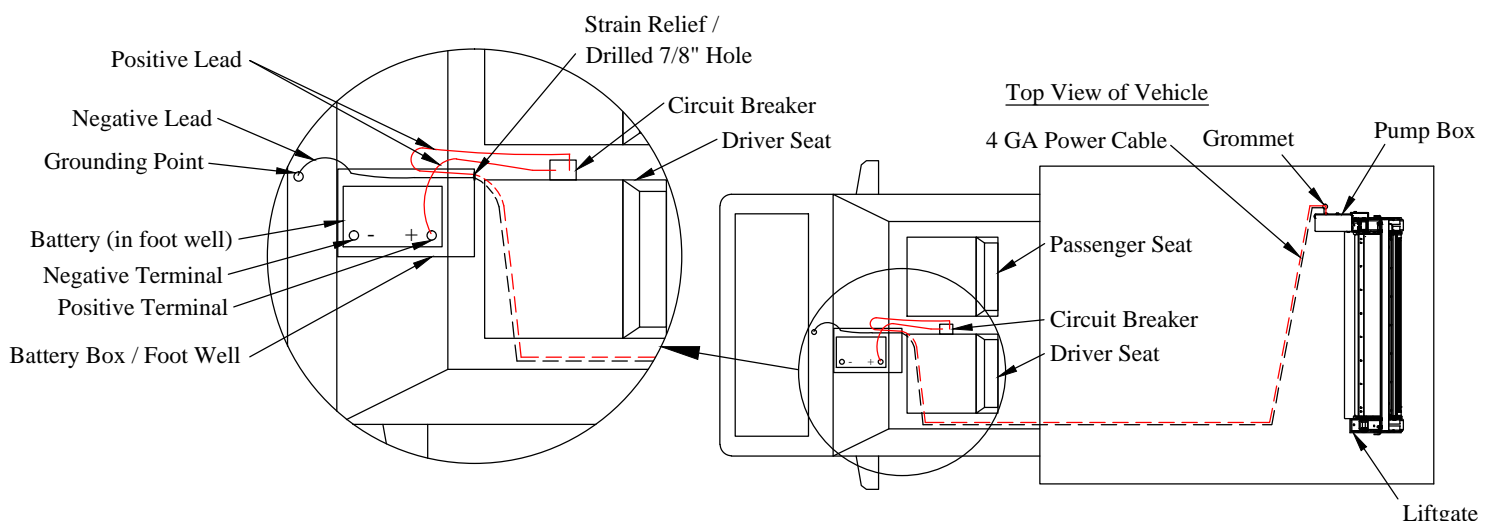

Figure 16: Electrical routing (Sprinter Shown).
15. **Attach** the circuit breaker cover using the supplied self-drilling screws (Figure 16).
1. **Install** the circuit breaker near the battery or on the side of the seat pedestal, leaving enough room for the power cables to be installed and so that the circuit breaker can easily be reset (Figure 16).
5. **Route** the power cables under the vehicle from the liftgate, along the frame, to a location near the battery (Figure 16).